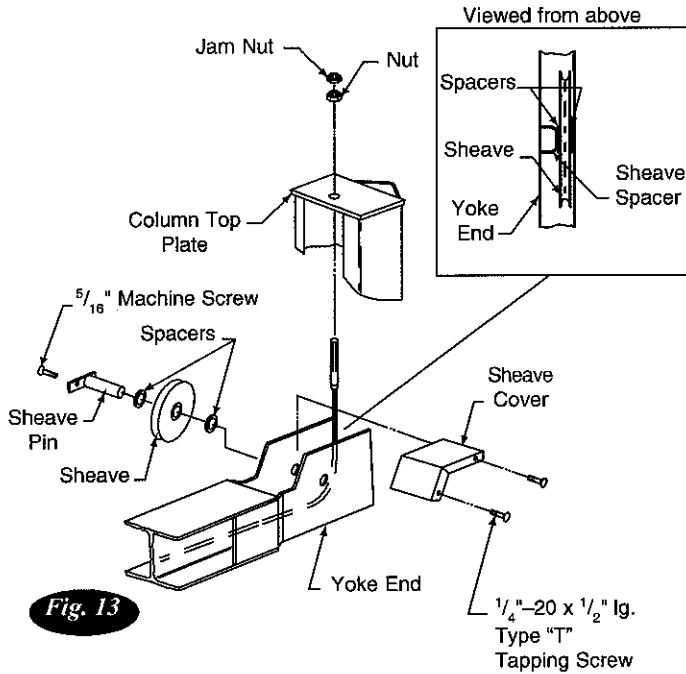
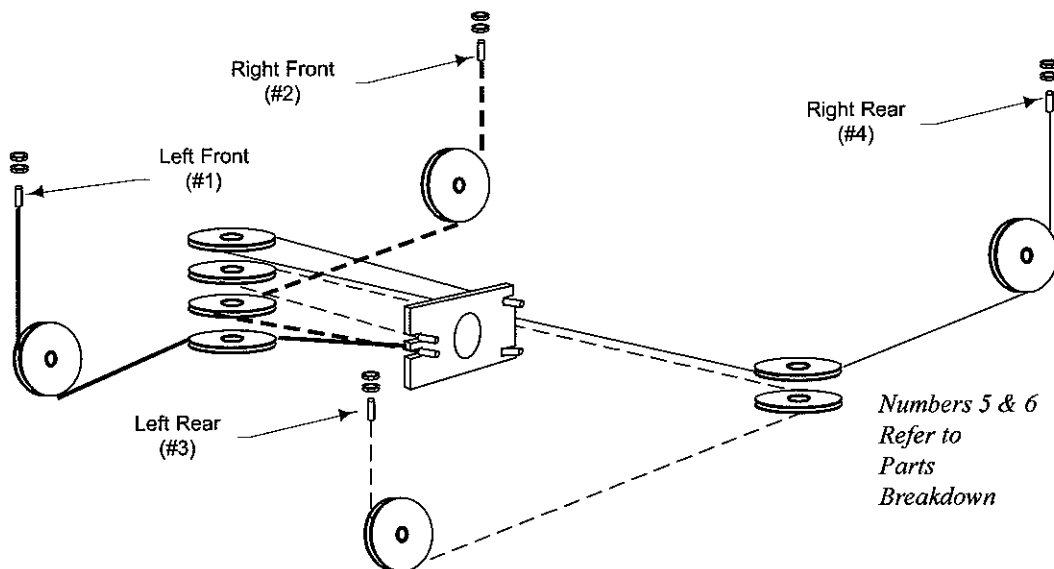

Fig. 13
Fig. 14
Install yoke end sheaves, Fig. 13. Retain with sheave pin and $\frac{5}{16}$ " pan head machine screw, Locktite the screw threads. Attach each cable to column top plate with nut and jam nut. Install sheave covers on each yoke end, Fig. 13. Roping diagram shows a view of completed roping, Fig. 14.
Loosen cable jam nut. Tighten adjusting nut on cable stud on top of column until yoke end is raised $\frac{1}{4}$ ". Back off adjusting nut one (1) turn. Tighten jam nut. Do this for all four (4) cables. See Fig. 13.